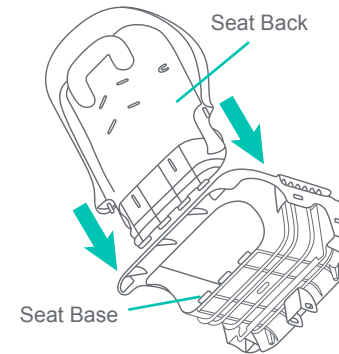
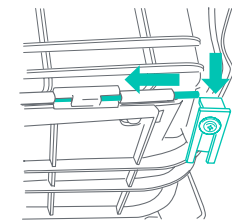

Fig. 2a
Fig. 2b
- 2) • Intersect the seat base with the seat back at the joint (Fig 2a). Press the latch down to insert the hinge rod through the seat back and seat base (Fig. 2b).